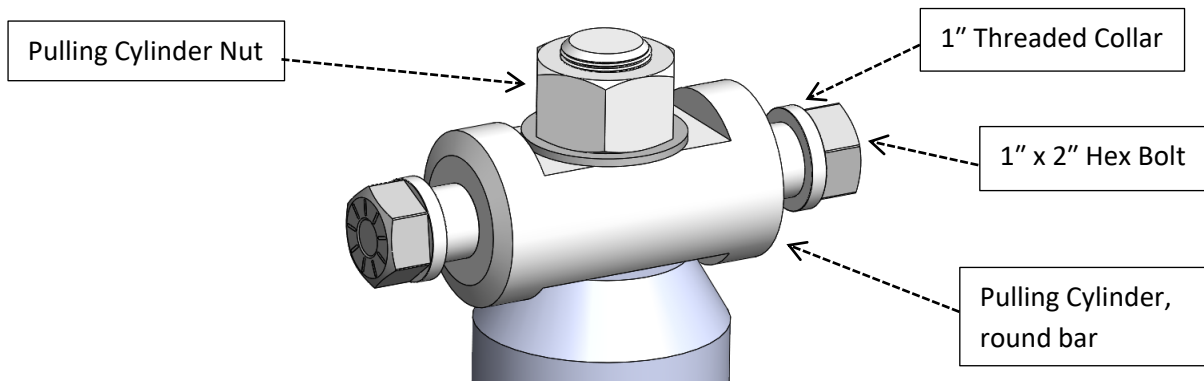

Figure 7 – Cylinder Attachments
- 5.8 If it is not already pre-assembled, take two threaded collars onto two 1" x 2" Hex Bolts, with the flange under the bolt head, as shown in Fig. 7, thread the bolts into each side of the pull cylinder upper clevis. Tighten both to 100 lbs-ft (135 Nm).